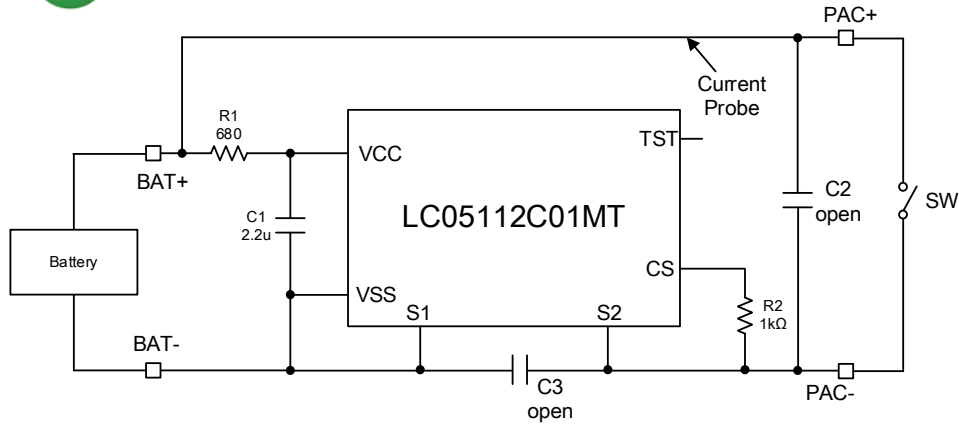

Figure3. LC05112C01MTGEVB Recommended Test Set Up for Discharge Current2(short current)detection
1. Connect LC05112C01MTGEVB like upper Figure3.